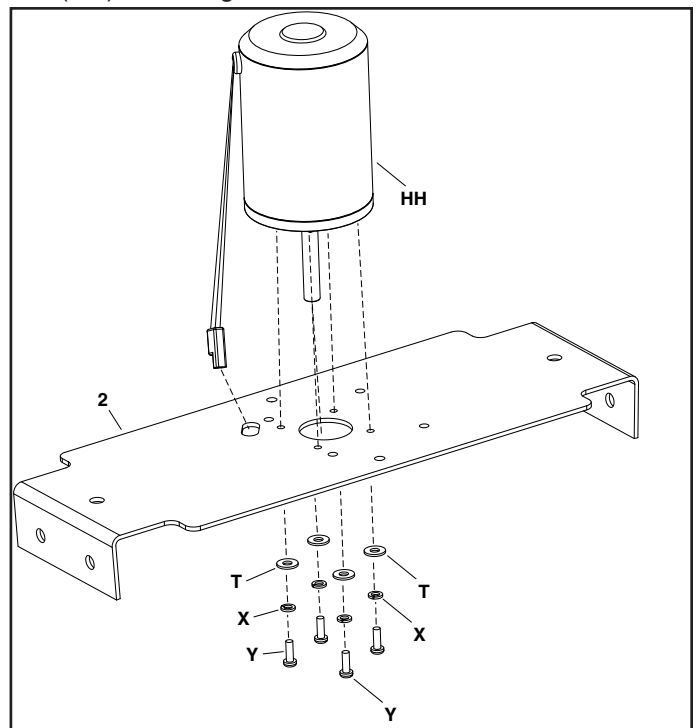

FIGURE 7
STEP 7: (SEE FIGURE 7)
- Insert the 12V motor shaft (HH) through the large center hole on the motor mount bracket (2). Then insert the harness through the oblong hole on the motor mount bracket (2).
- Place four lock washers (X) and four washers (T) onto four phillips head bolts (Y). Then install from under the motor mount bracket (2) and screw the 12V motor (HH) down. Tighten hardware.